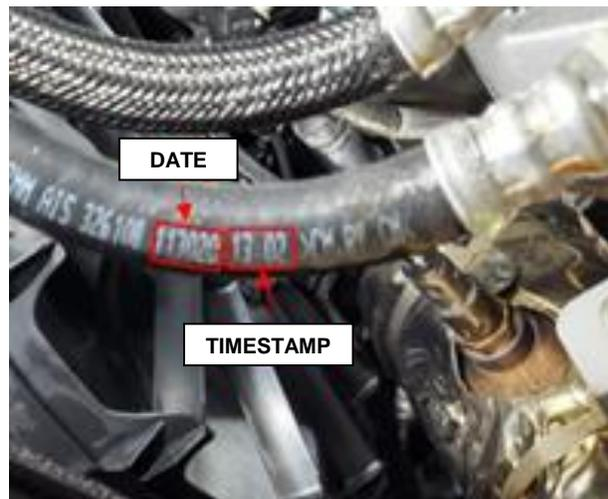

Figure 3 – Inspect Date Stamp
5. Inspect both hoses. If the date is 113020 and timestamp between 12:59 and 13:21 on either hose, proceed to removal procedure. If not, reassemble the vehicle and return it to the customer (Figure 3).
NOTE: The date and time stamps in Figure 3 are shown on the bottom of the hose. But the stampings may be on the top or sides of the hose. Use a mirror if necessary to inspect the codes.